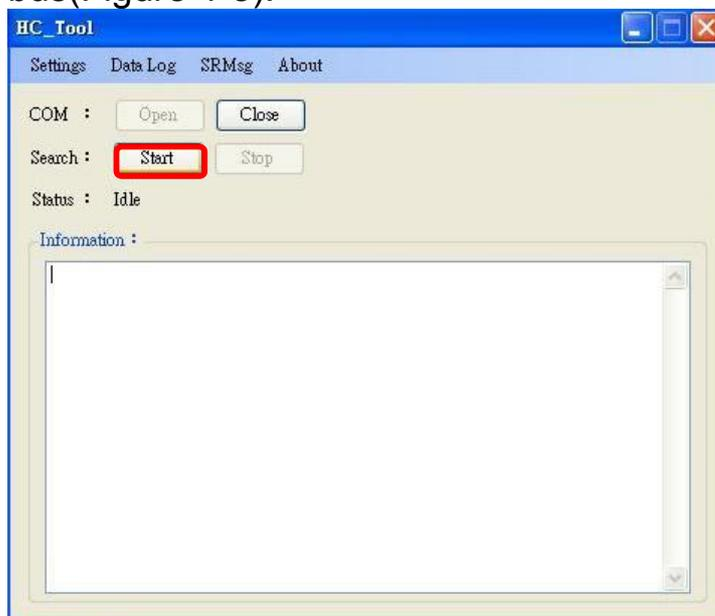

Figure 4-8: Click “Start” button
Step 2: Click the “Start” button to search HART device with HART bus(Figure 4-8).